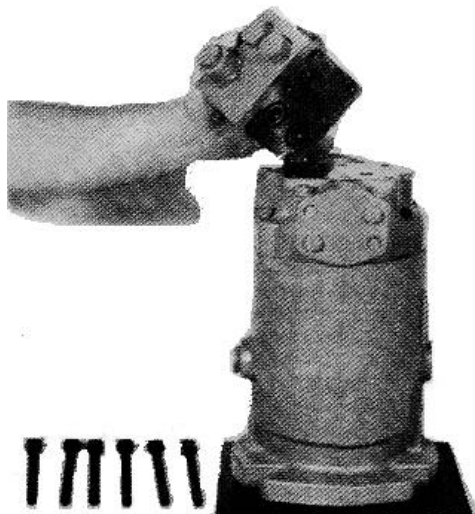

FIGURE 7-54.
d. Grasp manifold to prevent it from dropping and remove the remaining two (2) mounting bolts (see figure 7-54). There is no gasket between the manifold and the end cap. Sealing is obtained by o-rings and back-up rings.